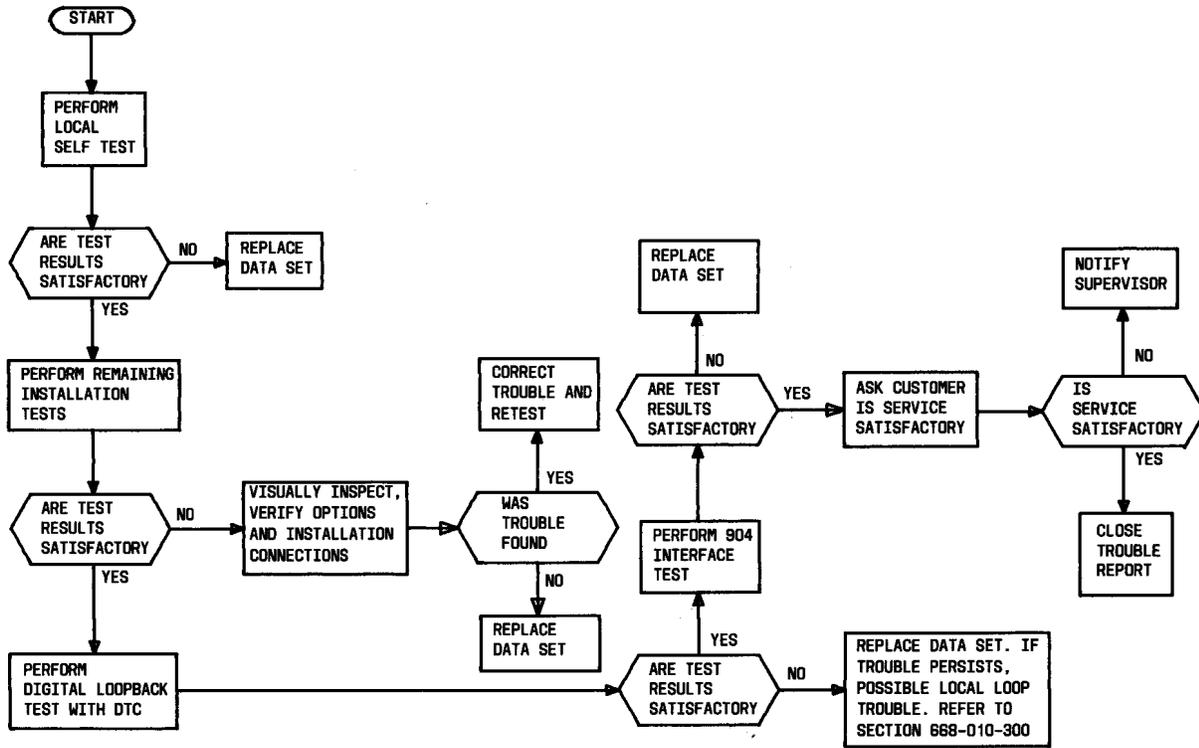

Fig. 7—Station Test Sequence—DS 113CR
- (1) Upon arrival at the customer location, the telco employee should make a quick visual inspection of the data set. Verify that power is applied. Check also for other possible causes of trouble, such as cable and connector defects.
- (2) If this initial check does not reveal a trouble condition, proceed as indicated in Fig. 7.